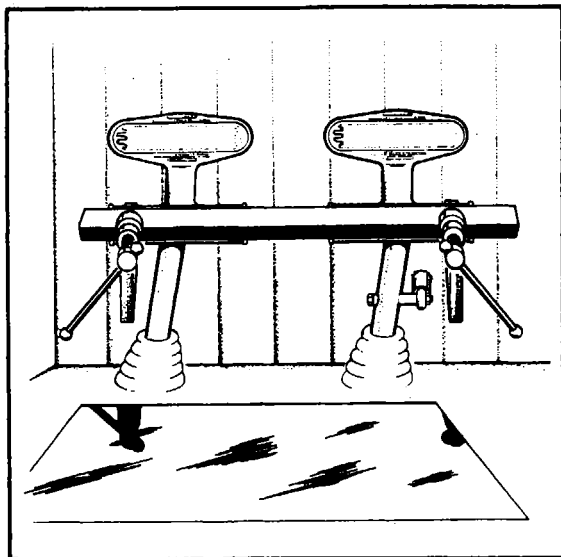

Figure 7-4. Clamping Rudder Pedals in Neutral
- i. Clamp rudder pedals to align in a lateral position. (Refer to Figure 7-4.)
g. Clamp the rudder pedals to align in a lateral position. (Refer to Figure 7-4.)